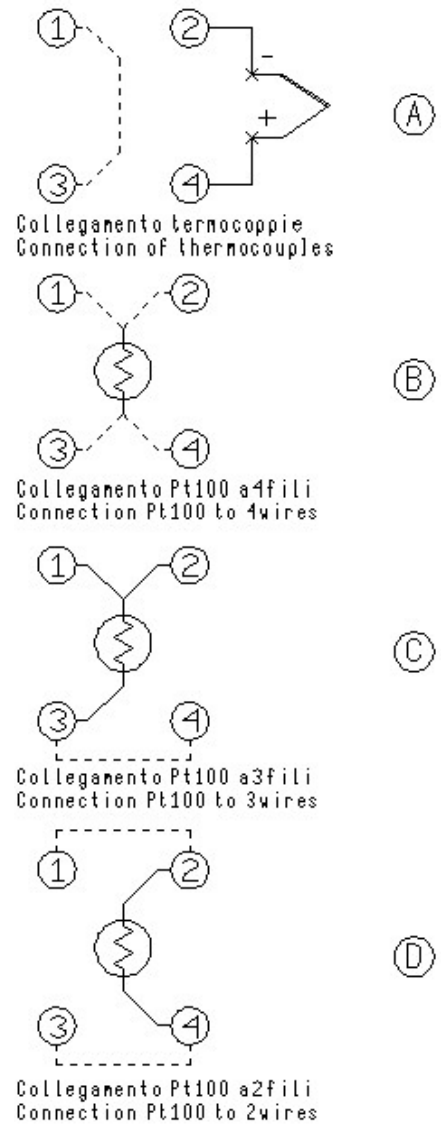

Fig. 6
- Connect the probe's wires to the clamps (15) as it is indicated in the figures.
- ◊ Thermocouple – connect the wires to the clamps 2-4 to make attention to the polarity; connect the clamps 1-3 as indicated. Reference to Fig. 6-A and select the thermocouple.
- ◊ Pt100 to 4 wires – connect the clamps 1-2-3-4 as indicated in Fig. 6-B and select Pt100.
- ◊ Pt100 to 3 wires – connect the wires to clamps 1-2-3; connect the clamps 3-4 . and select Pt100 3W. Reference to Fig. 6-C
- ◊ Pt100 to 2 wires – connect the wires to clamps 2-4; connect the clamps 1-2 & 3-4; select Pt100; In case of two wires connections remembers to us shortest wires possible. Refer to Fig. 6-D